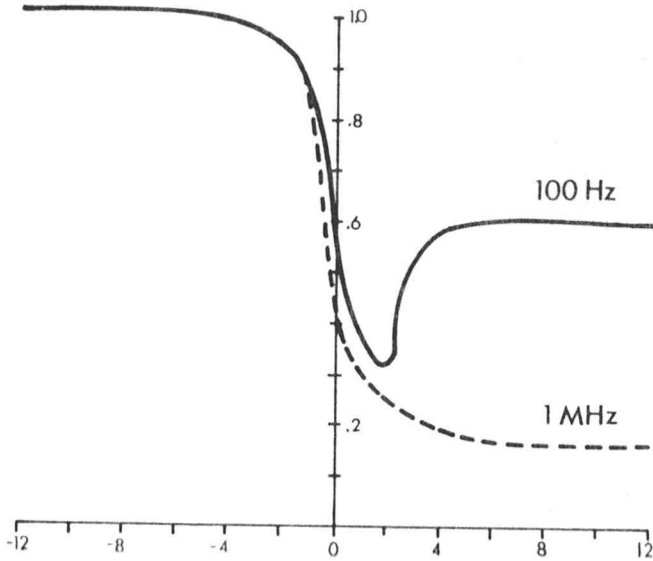

Figure 1 — Cell capacitance versus applied voltage for MOSTEK chip
An example of measured cell capacitance is illustrated in Figure 1. Oxide capacitance measurements can indicate the quality of the silicon dioxide (SiO_2) and the silicon dioxide-to-silicon interface. It is also useful for measuring (1) oxide thickness, (2) doping levels near the silicon surface, (3) lifetime of the minority carriers at the surface, (4) surface states, and (5) mobile ion impurities in the oxide layer.